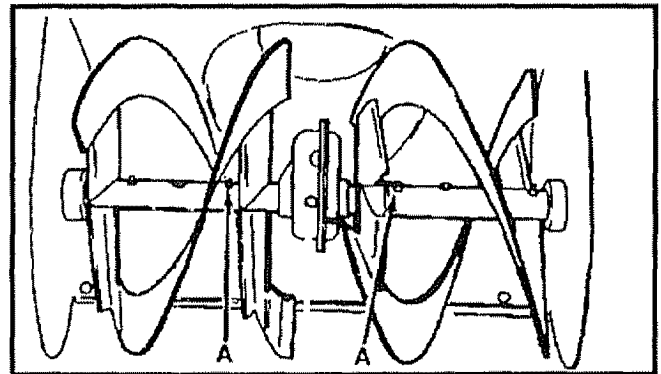

FIG. 17
- Weight Transfer System - Coat weight transfer plate with clinging type grease, such as Lubriplate, every ten (10) hours and before storage. See Lubrication Chart on page 26.
- Auger Shaft - Using a hand grease gun, lubricate the auger shaft zerk fittings (See A, Fig. 17) every ten (10) operating hours. Each time a shear bolt is replaced (see To Replace Auger Shear Bolt paragraph on page 23), the auger shaft MUST be greased.